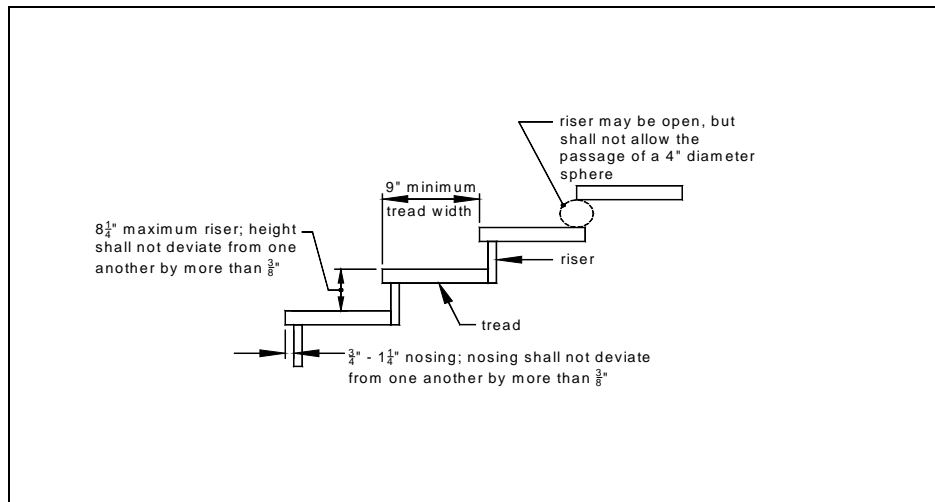
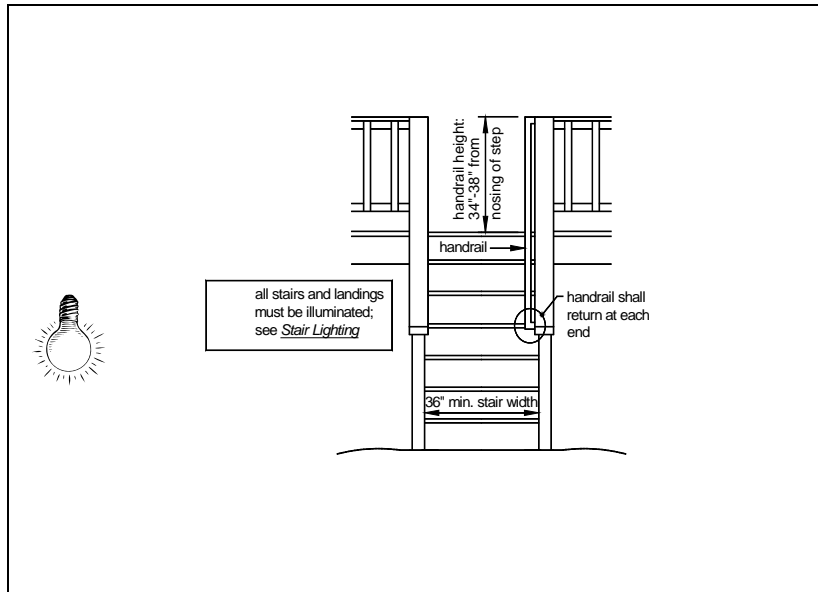

FIGURE 33: TREAD AND RISER DETAIL
FIGURE 40: MISCELLANEOUS STAIR REQUIREMENTS
Stairs shall be a minimum of 36" in width as shown in FIGURE 40. Tread, riser and nosing dimensions, opening limitations and tolerance minimums shall meet the requirements shown in FIGURE 33.
- Stringers shall be sawn or solid 2x12s meeting the stair geometry requirements shown in FIGURE 33.
- Handrails shall run continuously from a point directly over the lowest riser to a point directly over the highest riser and shall return to the guard at each end; see FIGURE 40.